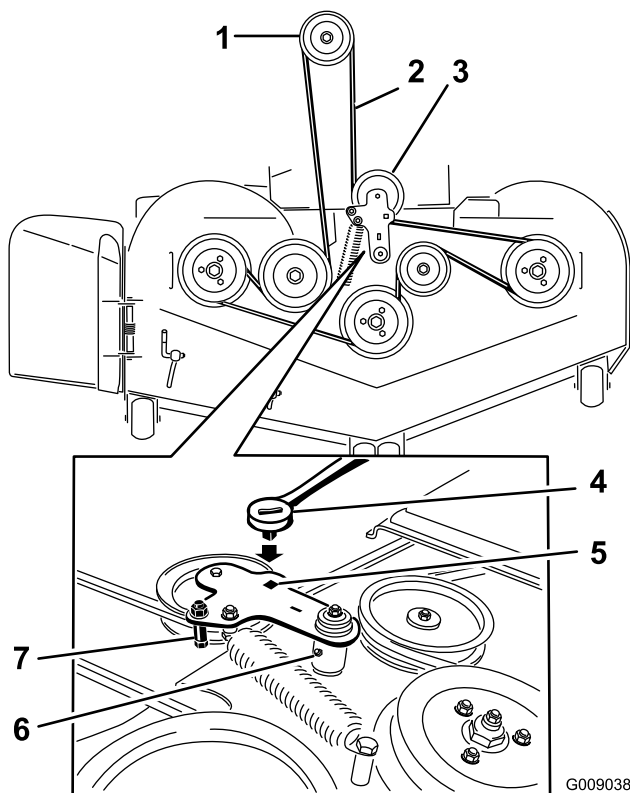

Figure 78
6. Use a ratchet in the square hole in the idler arm to remove tension on the idler spring (Figure 78).
8. Remove the belt guide on the spring-loaded idler arm (Figure 78).
10. Install the new belt around the mower pulleys and the clutch pulley under the engine (Figure 78).
11. Install the belt guide on the idler arm (Figure 78).
12. Using the ratchet in the square hole, install the idler spring (Figure 78).